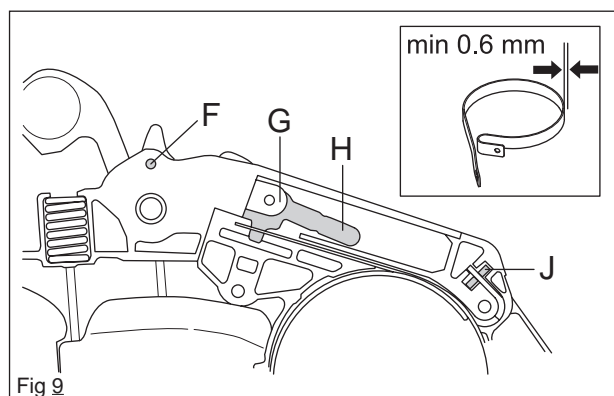

Fig 9
- Measure the thickness of the chain brake band. It must not be less than 0.6 mm in any place, see figure 9.
In the jointed end of G is a fixed pin, which must be placed in the notch in the fork H, see figure 9.